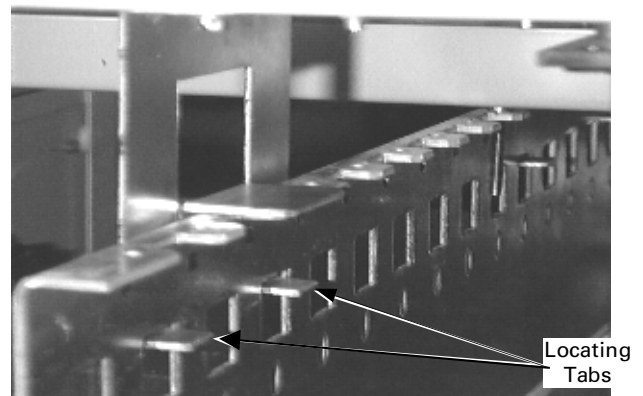

Figure 3. Switch locating tabs aligned in the panelboard interior.
- 3. Install the switch.** Align the locating hook tabs on the bottom of the switch into the square holes in the support rails on the panelboard interior, as shown in Figure 3. Open the switch door and reattach the screws removed in step 1 to the mounting bracket installed on the panel in step 2. Tighten the screws to 27–32 in-lb.